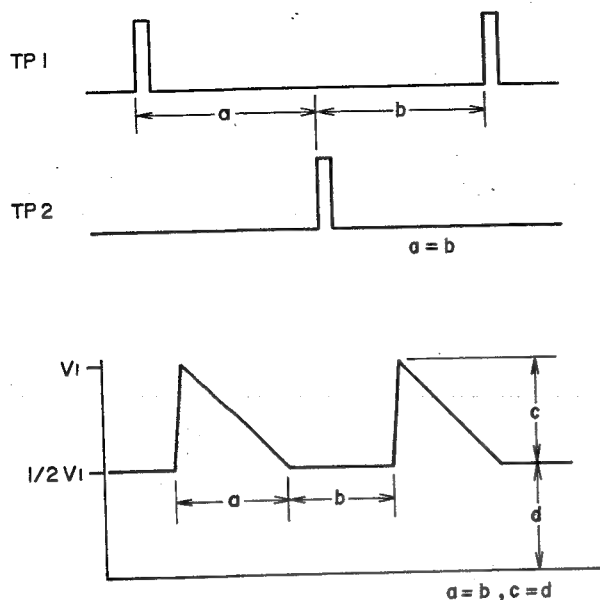

Fig. 25
- Adjust VR7 (500 k $\Omega$ ) to give the waveform in Fig. 25.